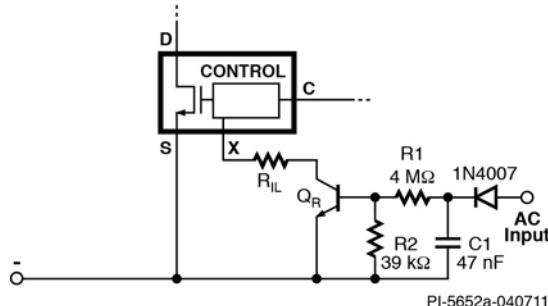

Figure 3 – Optional Fast AC Reset Circuit.
The TOPSwitch-JX family has a fast AC reset function which can be configured on the EXTERNAL CURRENT LIMIT (X) pin (as shown in Figure 3). Should the device stop switching due to a latching OVP fault condition, the circuit connected to the X pin will force I_x to exceed $I_{x(\text{TH})} = -27 \mu\text{A}$ (typical) and reset the latch when the AC input is disconnected or falls below a set threshold value.
In Figure 3, R1, R2 and C1 set the time after AC is removed before the latch is reset. A higher gain BJT Q_R is desirable to allow a higher resistance value for R1 and lower capacitance value for C1, and thus minimize the circuit dissipation.